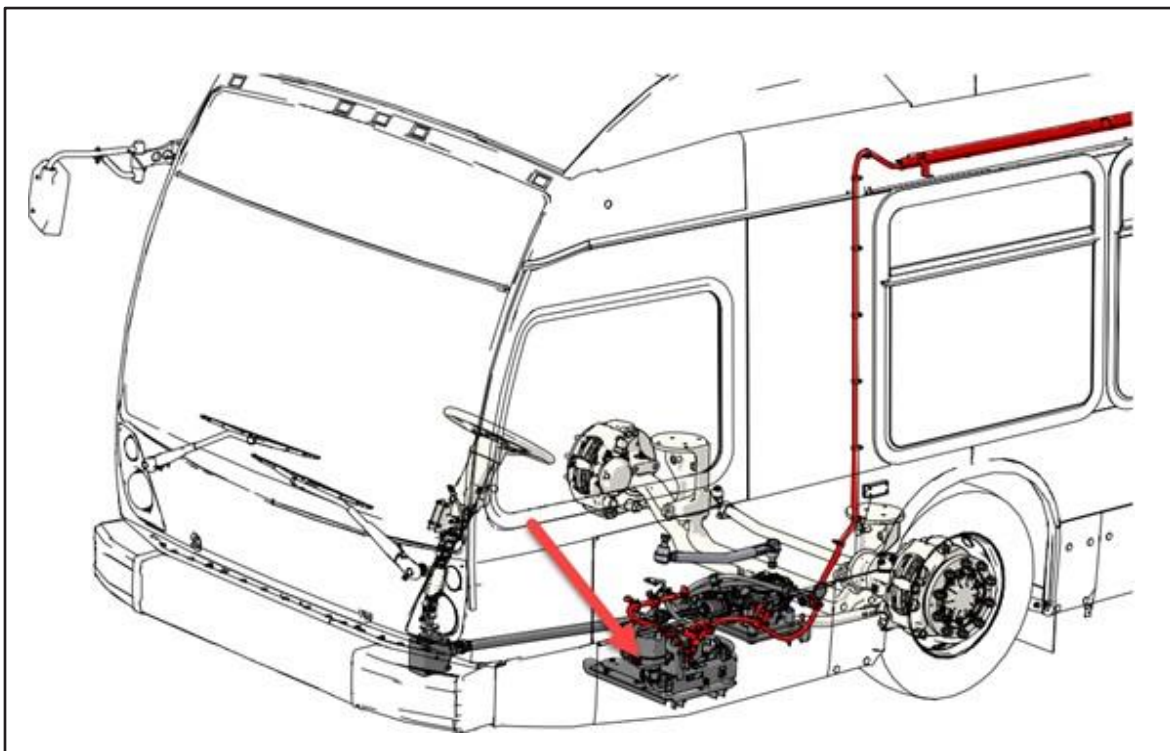

Figure 1 - Location of E-Steering Motor
- 1.4. Open the street side panel to access e-steering motor (see figure 1).